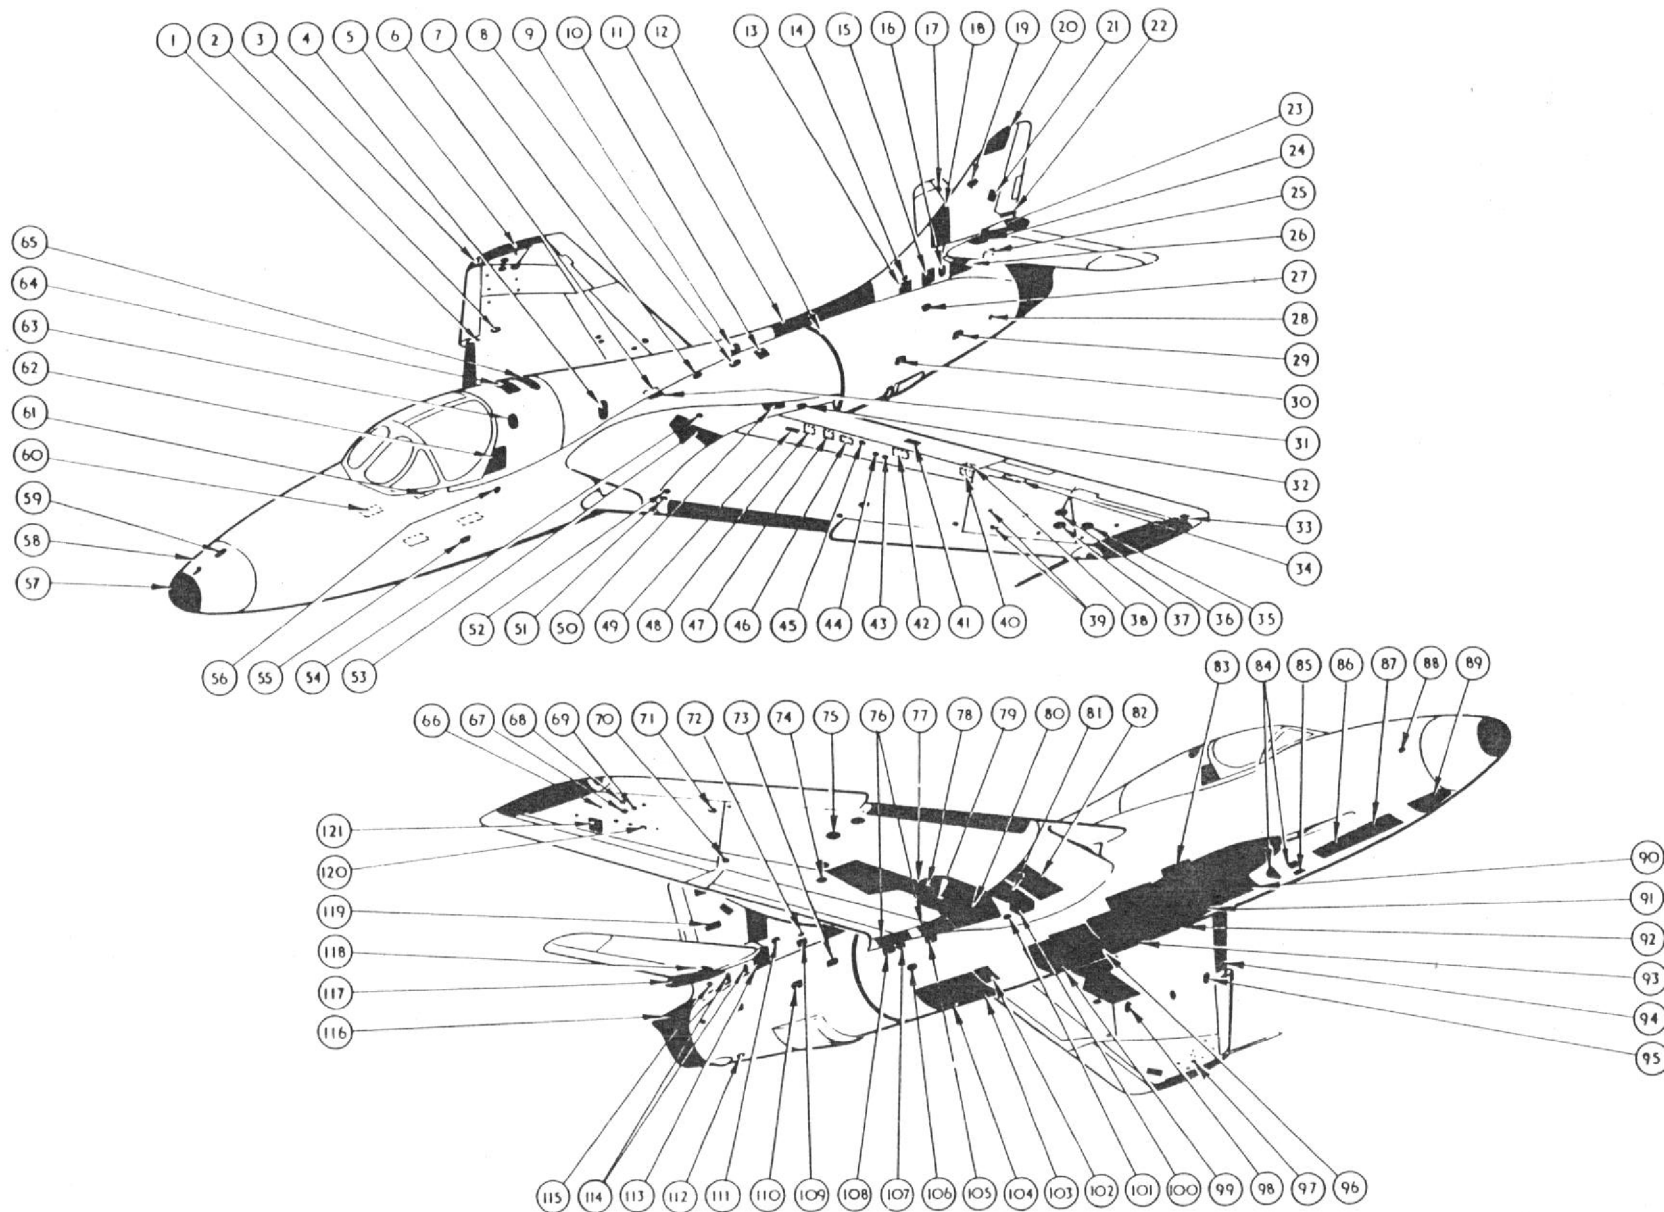

Fig.3 Access panels
KEY TO FIG.3 (ACCESS PANELS)
7. The positions of the access doors and removable panels are shown in fig.3, the components to which they give access being given in the key. When handling the doors and panels, care should be taken to ensure that they are not damaged or distorted in any way. When re-fitting them, ensure that they fit flush with the surrounding surface and that they are secure and effectively locked. Screws removed from access panels must be replaced by screws of the same length, after first ensuring that fouling has not already taken place, otherwise damage to components, pipe lines or structure in the vicinity of the panel may occur.